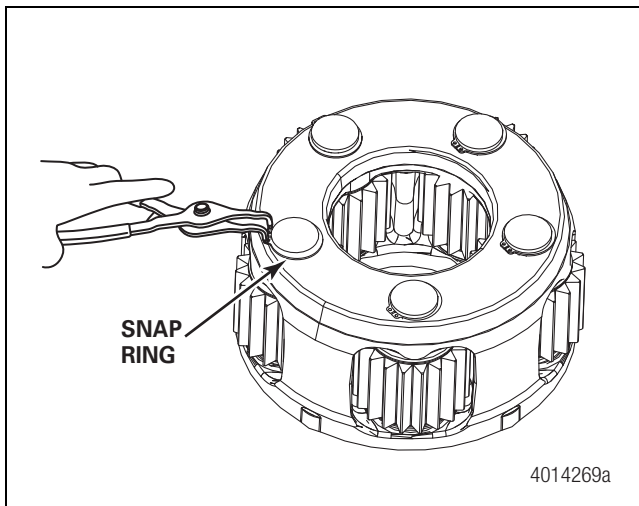

Figure 4.12
3. Remove the snap rings from the planetary pinion shafts. Figure 4.12.